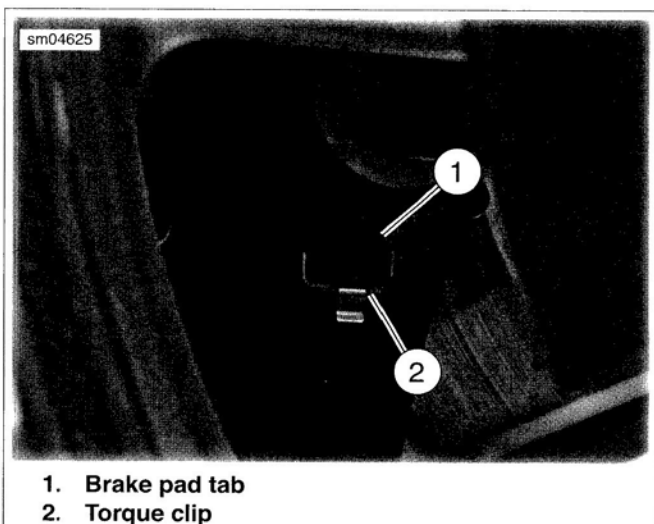

Figure 1-39. Rear Brake Pad Installation
12. See Figure 1-39 Install caliper with brake pads on either side of brake disc. Make sure brake pad tab (1) is properly inserted into torque clip (2) for each brake pad.